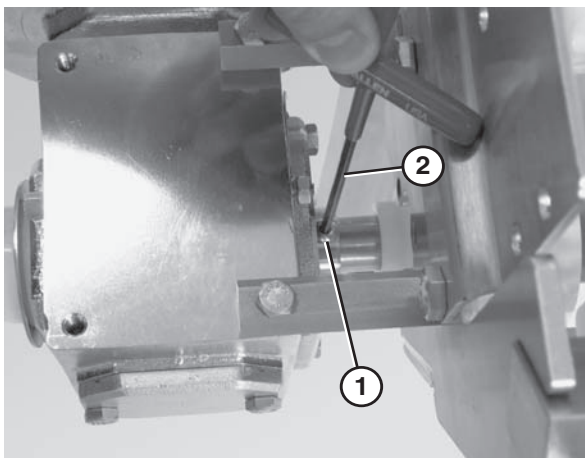

Figure 60
1. Loosen the fasteners (**Figure 60, item 1**) that connect the gearmotor to the drive spindle using a hex wrench (**Figure 60, item 2**).